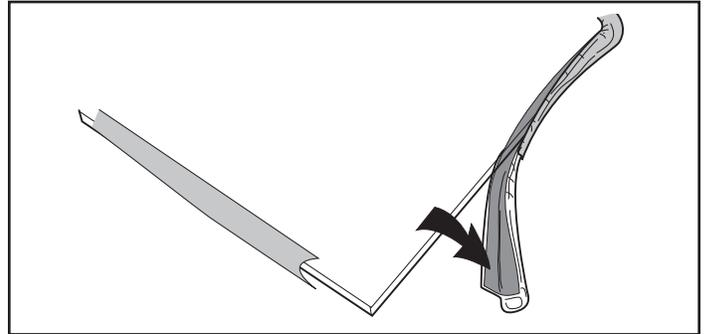

Figure 5.3 - Wrap the gasket material around the outside edge of the glass.
1. Starting on a long edge, remove about 6" of the protective paper strip and apply the flat adhesive face of the gasket around the outside-facing edge of the panel. Continue around the panel, applying about 6" at a time and being careful to not stretch the material. Do not overlap the gasket ends, Figure 5.3.